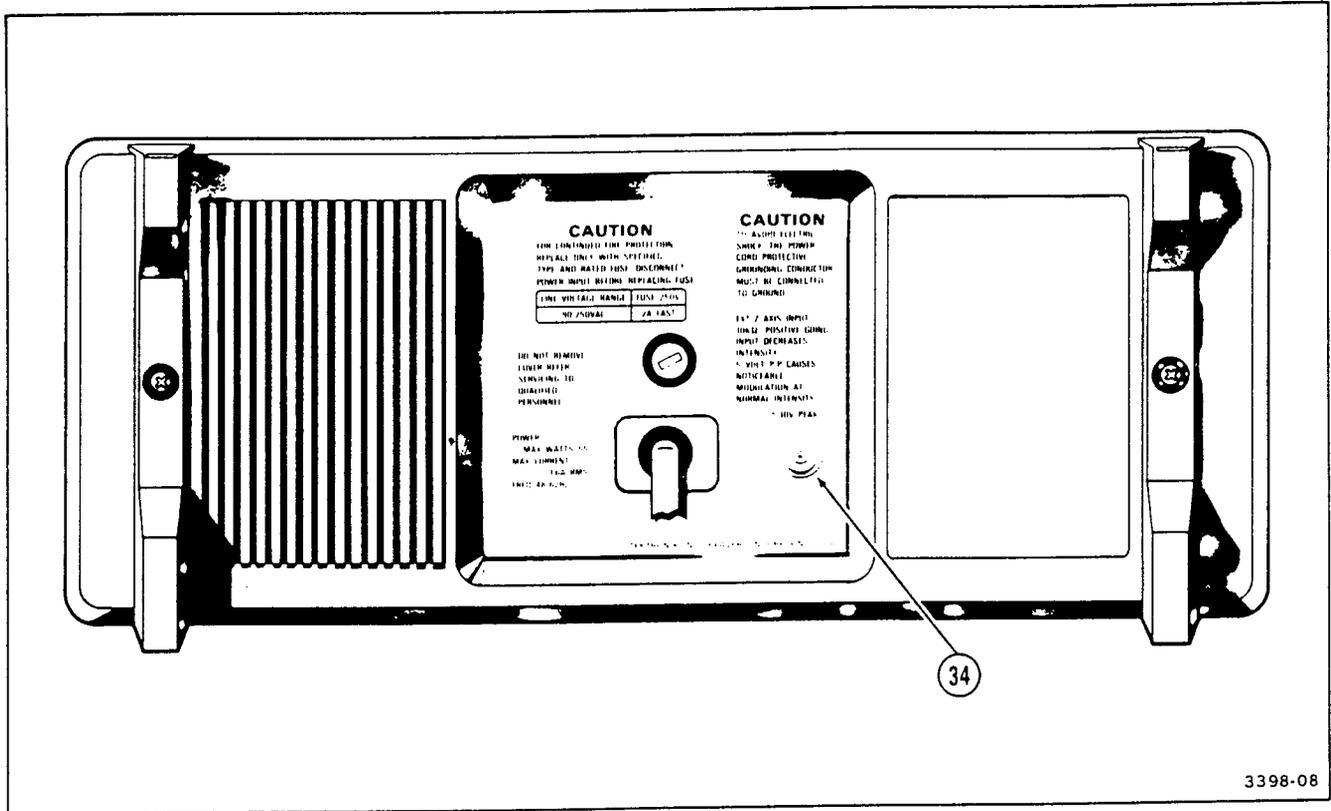

Figure 2-7. Rear-panel connector.
Refer to Figure 2-7 for location of item 34.